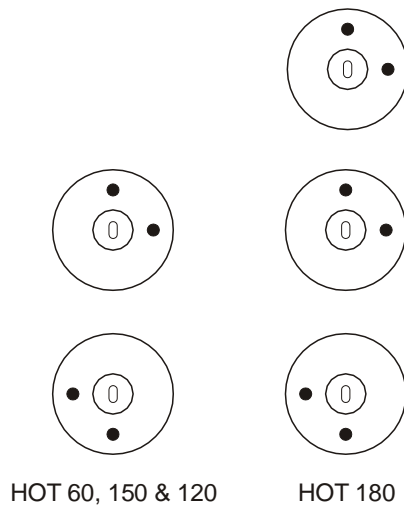

fig 1. Bracket Positions
Position brackets (C) on wall with grub screw holes as shown in figure 1 for maximum rigidity before tightening screws (D).